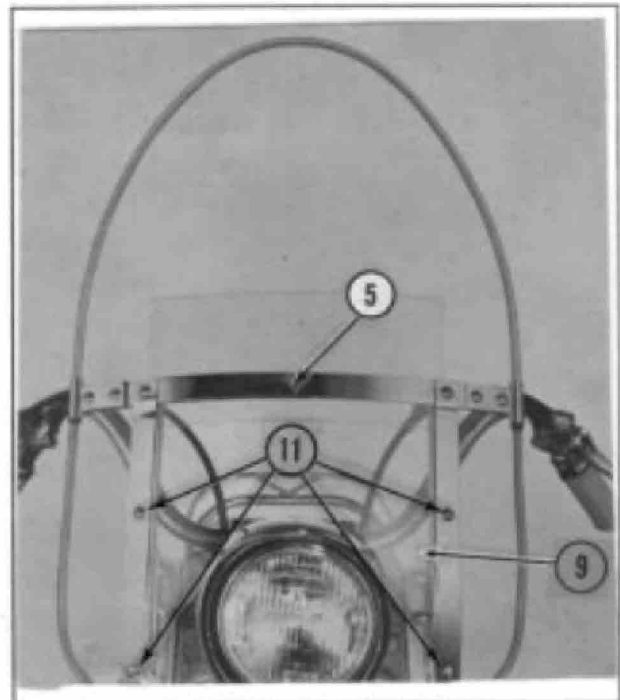

Figure 2. Front view
5. Adjust windshield to desired height by sliding entire assembly up or down in adjusting brackets. Tighten bolts (6) to 16-19 ft-lbs torque.
6. See Figure 2. To install lower adjustable window (9), loosen the two Phillips head screws (11) in each vertical windshield brace. Insert window between fork brackets (1) and windshield.
7. Push window (9) up until it is flush with the bottom of horizontal windshield brace. If bottom of window does not clear the top of the headlamp, remove window and trim off excess to achieve appropriate length.
8. Reinstall window flush with the horizontal brace and tighten the windshield brace screws (11) to not more than 40 in-lbs torque.